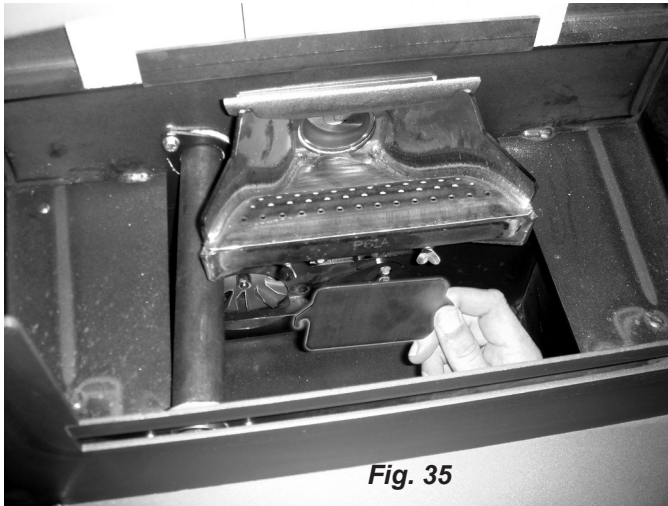

Fig. 35
3. Lift off the clean-out cover (Fig. 35) to open the bottom clean-out chamber. (Fig. 36)